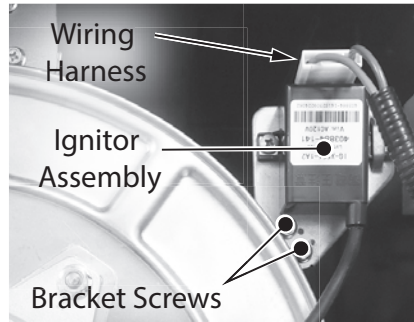

Figure 142 - Ignitor assembly location
- 31 Locate the ignitor assembly on upper right side of the heat exchanger as shown in Figure 142.